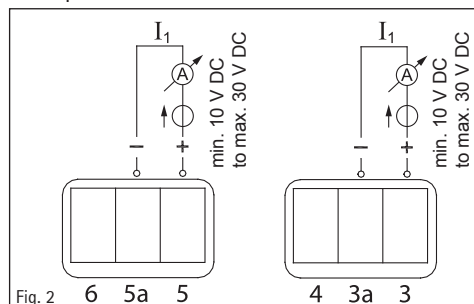
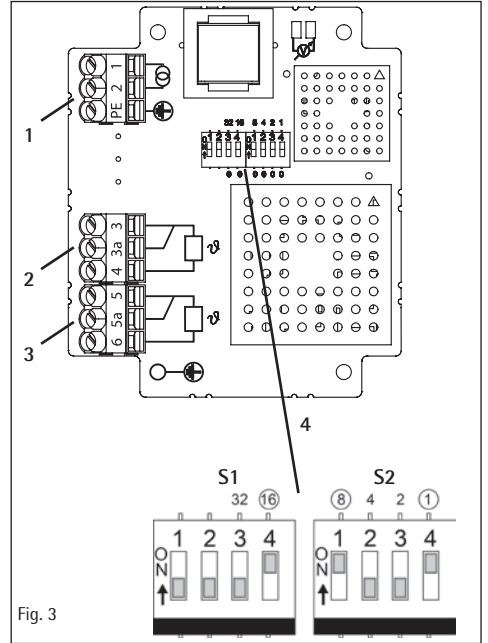

Fig. 2
Fig. 3
nected to terminals 3 and 4 and the equalizing line to terminal 3a (see figure 3, item 2).
When a 2-conductor indicator instrument is used (2 measuring lines), one measuring line is connected to terminal 3 and the other measuring line is connected to terminal 4 (see figure 3, item 2).
When a 4-conductor indicator instrument is used (2 measuring lines and 2 compensation lines), the same connections are used as for the 3-conductor technique. The second compensation line must be connected to terminal 4 (see figure 3, item 2).
When the configuration of the ZT-F2.1 with two Pt100 measuring resistors is used, an additional indicator instrument can be connected to terminals 6, 5a and 5 (see figure 3, item 3).
The ZT-F2.1 can be delivered with the 4...20 mA analog output instead of the Pt100 measuring resistor. The 2-conductor connection technique ( $R/L$  max. 750  $\Omega$  at 24 V DC) is used with connection to terminals 3a and 3 (see figure 2 and figure 3, item 2).
Optional configuration of the ZT-F2.1 with two analog outputs or one analog output and one measuring resistor is also possible. Connection is then made to terminals 5a and 5 (see figure 2 and figure 3, item 3).
the position of switches S1 and S2 for the desired gradients in the table in the appendix (chap. 12.2 – hot-spot gradient table for 2 A CT nominal current) and set these accordingly (see figure 3). The hot-spot gradient can be set from 4 K to 50 K in increments of 1 K.
For example, the switch setting shown in figure 3, item 4 must be set for a hot-spot gradient of 25 K.
See chap. 13.2 (hot-spot gradient table for 2 A CT nominal current) for the switch positions to be set for the DIP switches (figure 3, item 4).